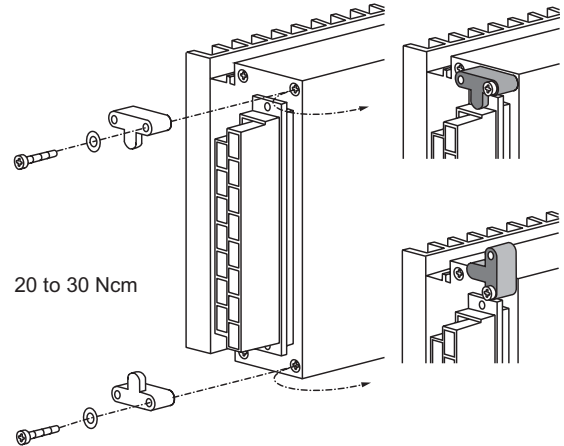

Fig. 45
- Connector retention brackets HZZ01216-G; see fig. 45.